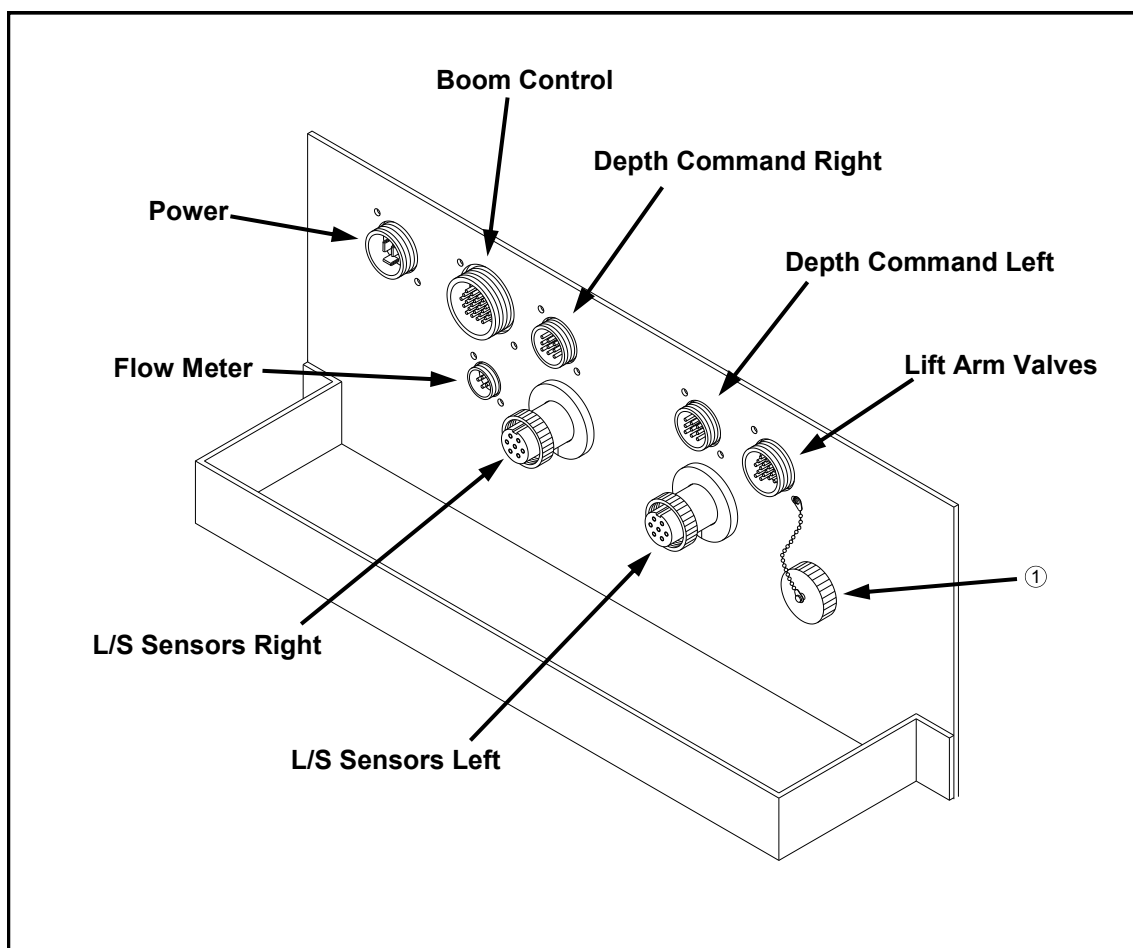

FIG 2.4
Attach Tasselrol[®], Depth Command and other wire harnesses to the appropriate “jumper” ports located in front of the cab (fig. 2.4). Refer to also to STS 10 SPRAYER/DETASSELER Parts Manual
All “jumper” ports not used should be “capped” (fig. 2.4, items 1) to protect connection points.